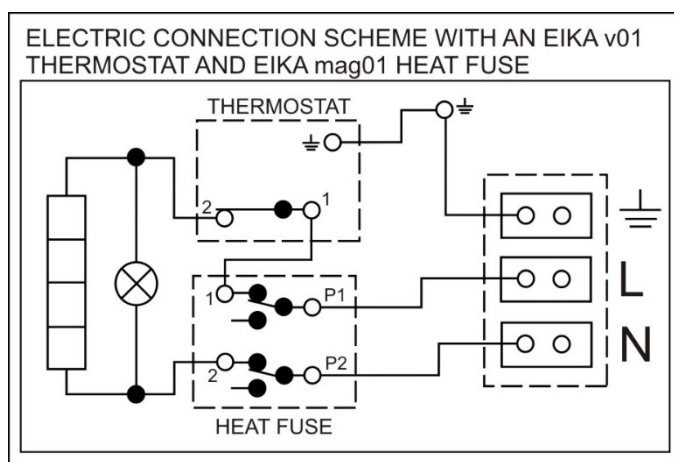

Figure 8
Perform the connection according to the scheme. Factory connection must not be changed! (Figure 8). The degree of protection of electric parts of the heater is IP 44. Power input of electric element is 2000 W (OKHE ONE 50-120), 1100 W (OKHE ONE 30).
- The electric wiring scheme is attached to the water heater on the side of the electric installation guard (Figure 8)